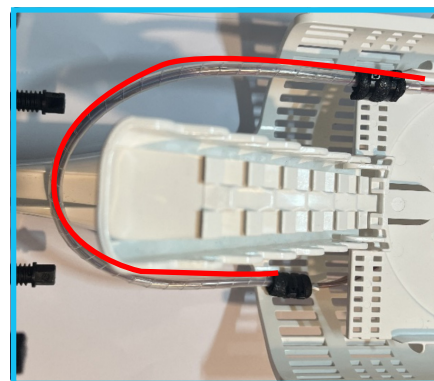

Figure 9.7
7. Route the spiral wrapped fibre to the first tray. Pass the fibres behind the splice tray spine as shown in **[figure 9.7]**. Secure to the splice tray using foam and two cable ties.